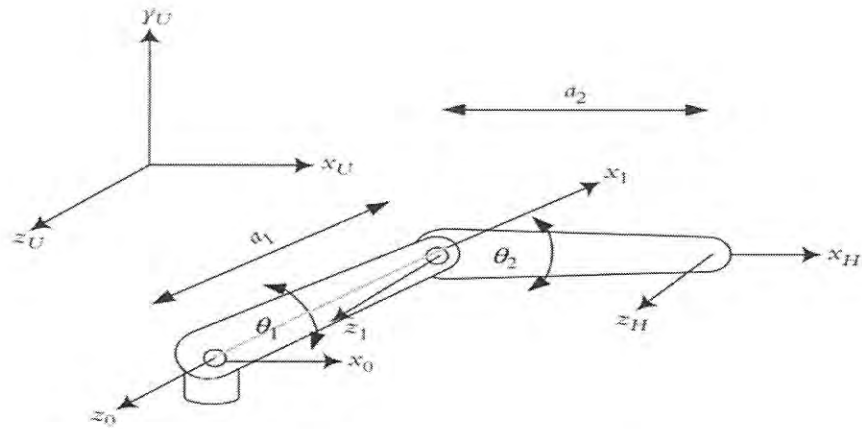

Figure Q2: 2 – axis articulated robot arm.
- Q2.** **Figure Q2** shows the 2-axis articulated robot arm. Assign the necessary coordinate systems based on the Denavit-Hartenberg (D-H) representation,